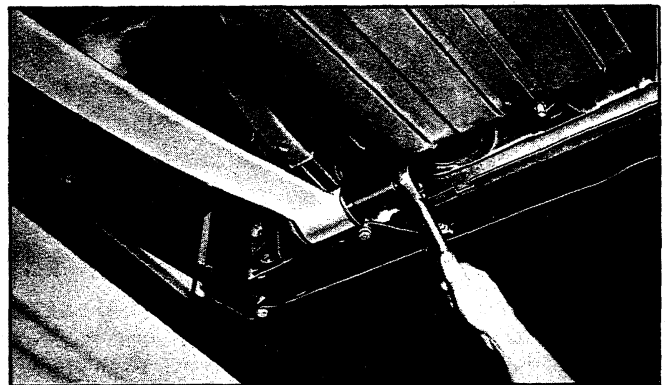

Fig. 20—Disassembling Rear Spring Shackle (Chevy II)
4. Remove nuts from rear spring shackle (fig. 20), spread shackle to separate it from spring eye and support bracket and remove spring. Remove rear spring eye bushings.